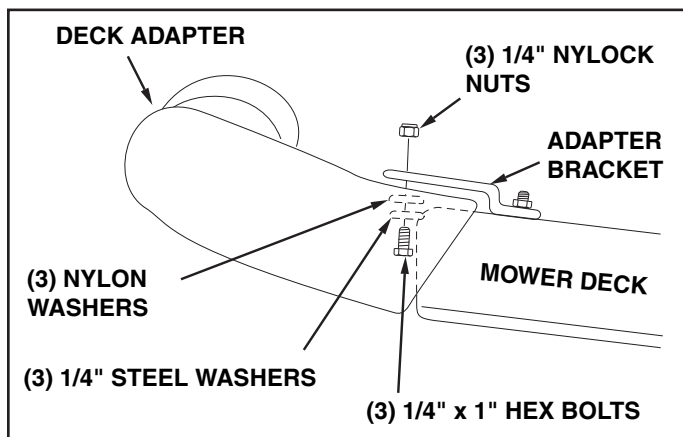

FIGURE 33
- With deck adapter positioned correctly over the discharge opening, use the adapter bracket as a template and drill three 9/32" diameter holes in the top of the deck adapter. See figure 33.
- Bolt deck adapter to bracket using three 1/4" x 1" bolts, nylon washers, 1/4" flat washers and 1/4" nylock nuts. Nylon washers should be against the inside of the deck adapter. See figure 33.